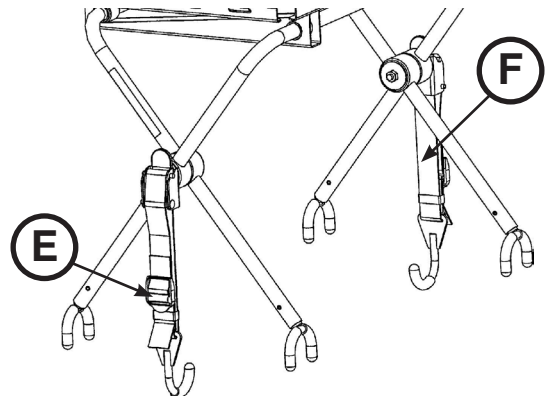

Figure 59
- If the defibrillator platform is not securely attached to the cot when both latch hooks are engaged or if you cannot secure the latch hooks around the cot litter frame, unlatch the tab (E), loosen or tighten the strap (F) until the proper adjustment is achieved, and then push the tab (E) up until it locks into place with an audible click (Figure 59).